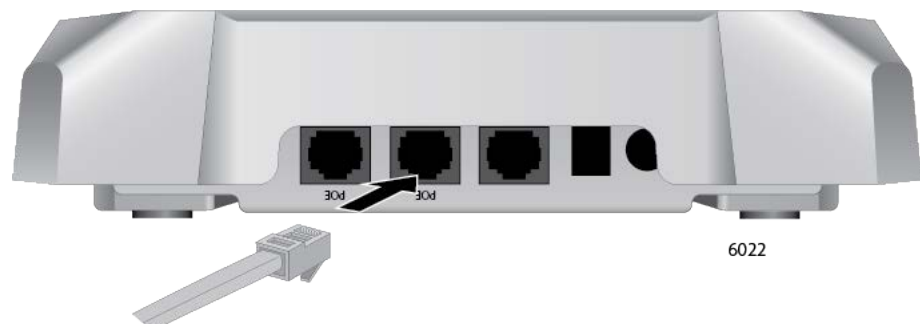

Figure 23. Connecting an Ethernet Cable to the LAN1 Port
1. To cable LAN1 port, connect an Ethernet cable into the port. The cable requirements are in “Cable Requirements” on page 27. Refer to Figure 23.